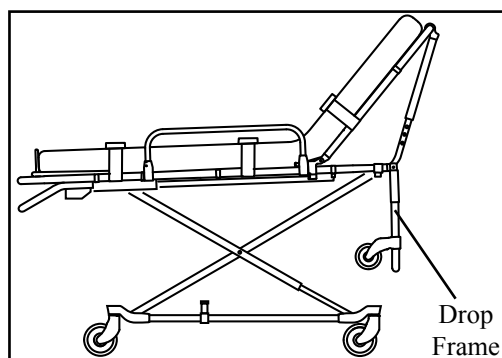

Figure 17 - Lowered Drop Frame
- **Purpose:** In the extended position, the two-position drop frame is used for raising, lowering, loading, and unloading the cot. In the lowered position (Figure 17), it is used to shorten the cot where space is limited, such as in an elevator or narrow hallway. The frame is unlocked in the lowered position and is not usable for lifting.